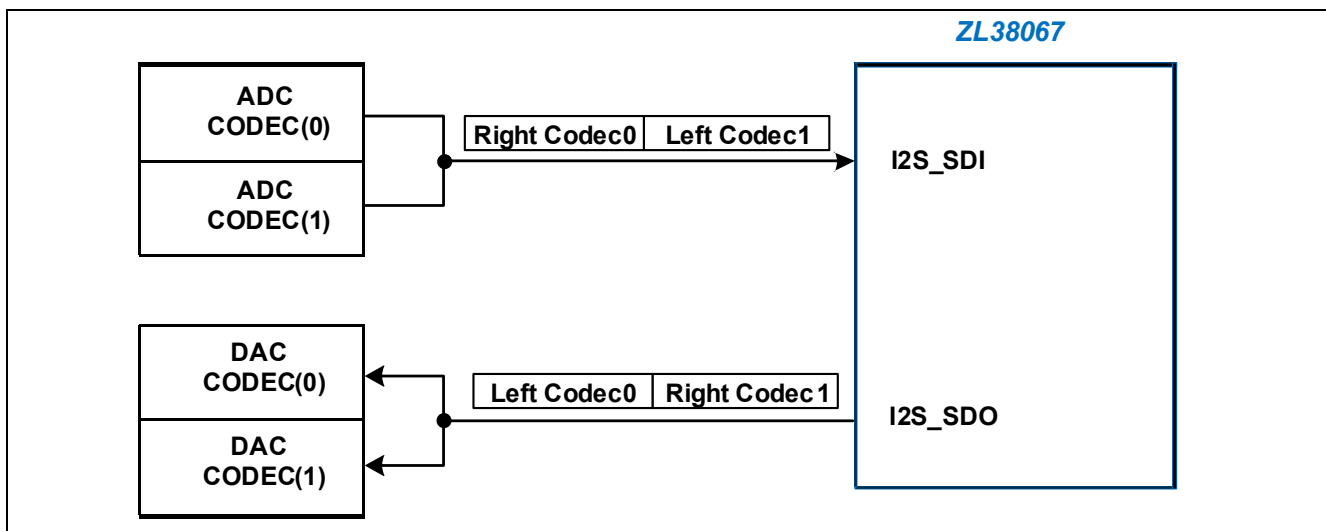

Figure 11 - Dual Codec Configuration – Full Duplex Communications Firmware
Each I²S interface can support one dual channel Codec (Figure 11) through the Codec's I²S interface. The four 16-bit channel processing capacity of the DSP is spread across the two input channels from the ADCs of Codec(0) and Codec(1), and the two output channels to the DACs of Codec(0) and Codec(1).